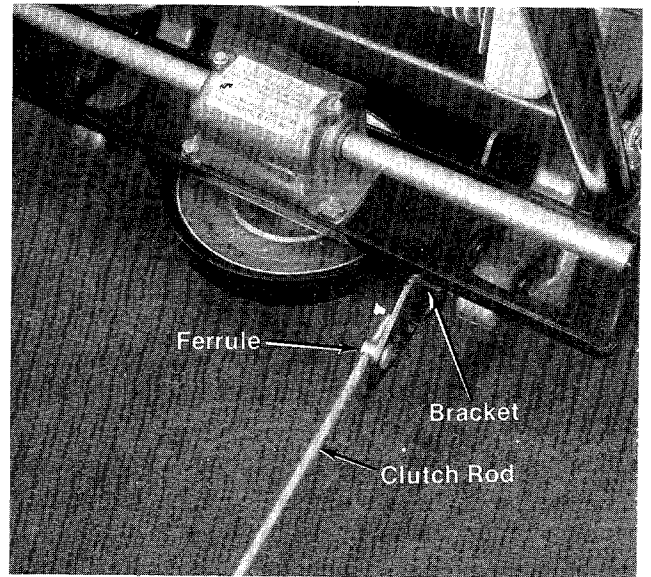

FIGURE 7
- Place the ferrule with the smaller hole, in the bracket on the right rear side of the mower and thread in the longer (39 inches) clutch rod until 1 3/8" extends through the ferrule. (See figure 7.)